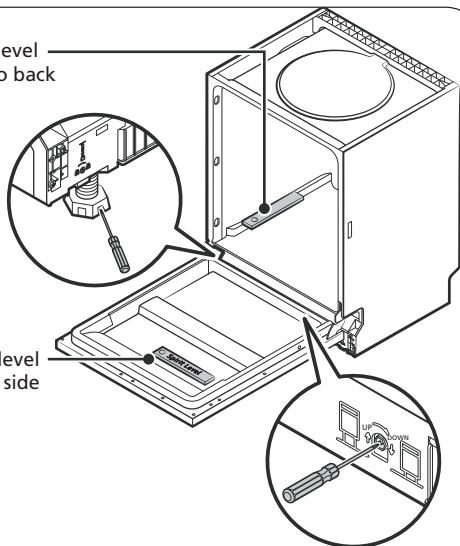

FIGURE 2
8. Adjust the tension of the door springs using an Allen key, turning it clockwise to tighten both left and right door springs. Neglecting this step may result in damage to the dishwasher (refer to Figure 2).